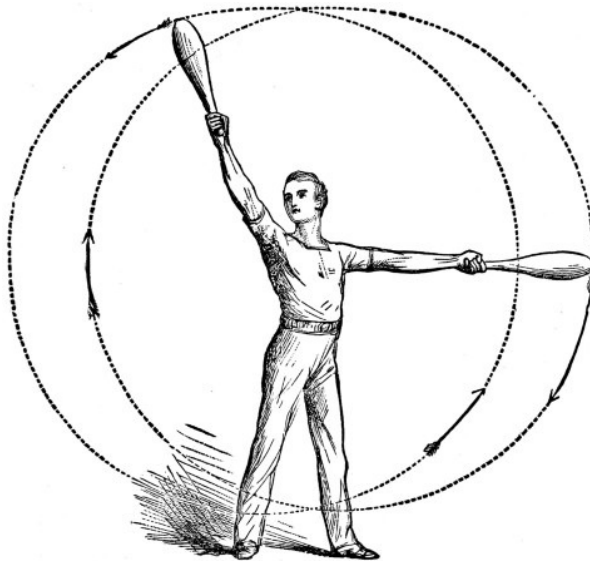

Fig. 4
*Exercise 2* (Fig. 4).—Commence as before, and when both clubs are raised above the head, *reverse* the direction of the left one, and, instead of describing the circle from right to left, swing it from left to right, the right club at the same time continuing its original course. A glance at Fig. 4 will show the exercise; the dotted lines and arrows indicate the direction in which each club travels. In this exercise (and in many others to follow) the clubs cross twice in each circle; care must therefore be taken not to allow them to come into collision (which catastrophe can be easily avoided by following the directions just given—viz., to keep the base of each club in a straight line with each shoulder).